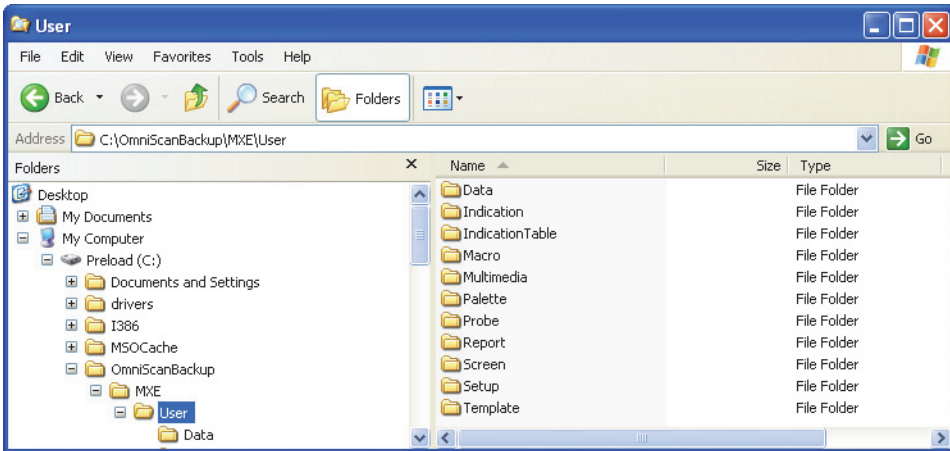

Figure 4-28 Selecting the User folder to recover
2. On your computer, using Windows Explorer, navigate to the backup folder you created using the procedure seen in section 4.5.1 on page 85, and then select the **User** folder corresponding to an application (**MXE** in the example of Figure 4-28 on page 90).